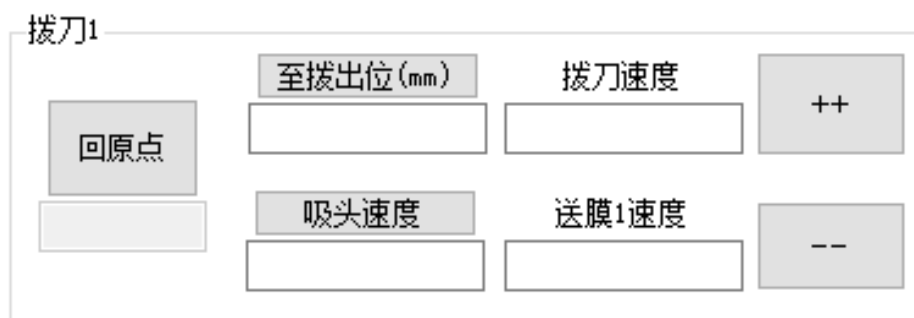

Figure24
2. Setting of four locations of horizontal stripping: As shown in Figure 24